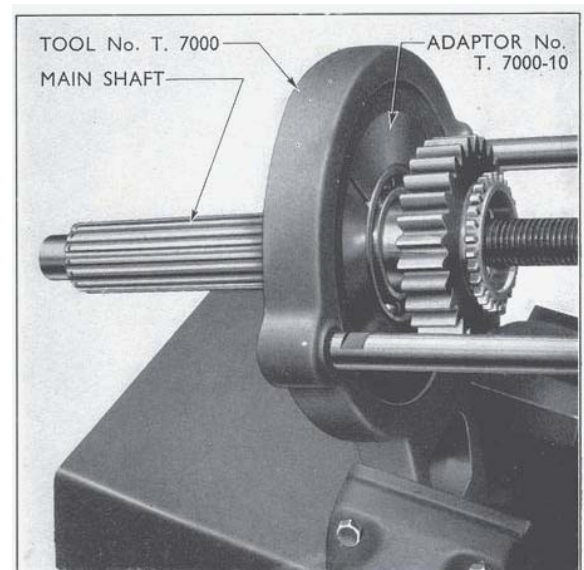

Fig. 20
- (ii) To assemble the ball bearing to the shaft, place adaptors T.7000-10 in Tool No. T.7000, locate the bearing on the shaft and place this assembly in the tool with the front face of the bearing located in the adaptors (see Fig. 20). Press the bearing into position to seat against the shoulder directly behind the gear.